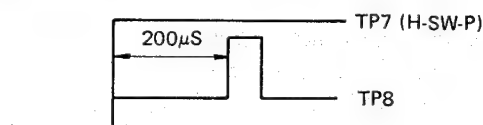

Figure 44
3. Selecting (+) sync slope with the oscilloscope, adjust R753 to meet the requirement given in Figure 44.